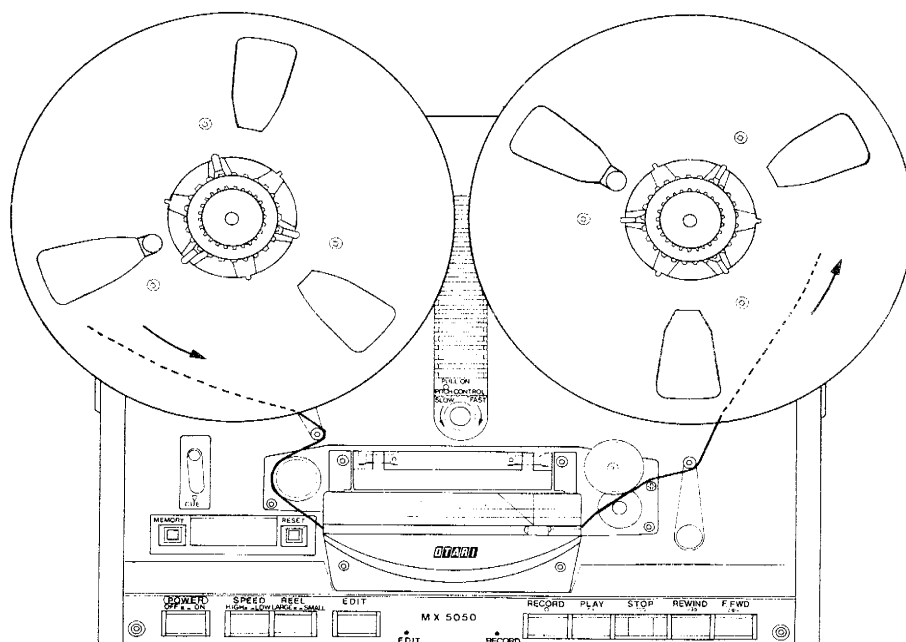

Figure 3-3 Tape Threading
- (4) Thread the tape as shown in Figure 3-3 and place the end of the tape in the slot of the empty reel, and rotate the reel several times with holding the tape end and removing slack tape.
- (5) Set the HIGH/LOW SPEED switch to the desired tape speed.
- (6) Set the LARGE/SMALL REEL switch to correspond to the size of the reel hub diameter being used.
- (7) If desired, connect a headset or monitor speaker/ amplifier to the PHONES jack.